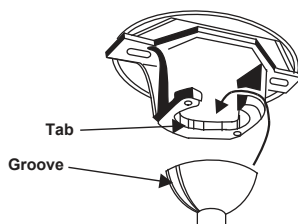

Figure 7
Step 7. Place the downrod ball into the hanger bracket socket. And rotate until groove in hanger ball lines up with tab in hanger bracket. (You will feel hanger ball drop into place as you rotate.) (Fig. 7)